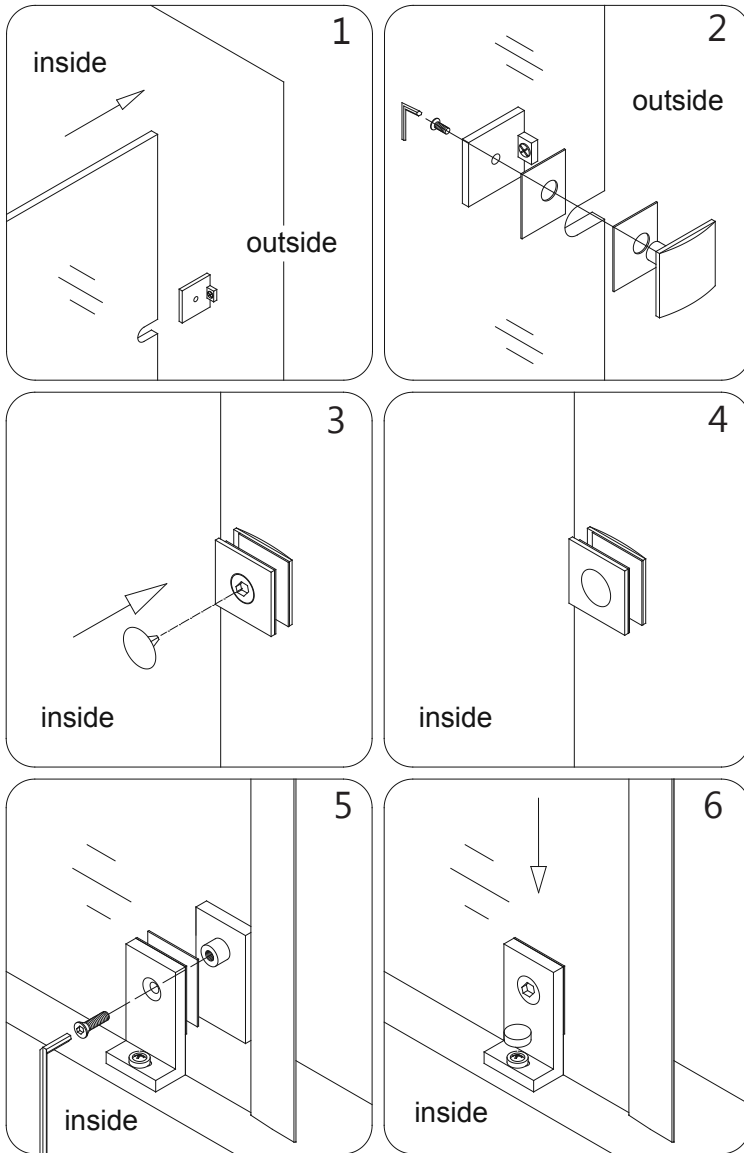

Fig 7
8. Move the **Stationary Glass (#11)** back into position, and assemble the **Wall Brackets (#24)**. Assemble the **Bottom Bracket (#18)** onto the **Stationary Glass (#11)**. Cover the **Bottom Bracket (#18)** screw head with **Decorative Screw Cover (#17)**. (Fig 7 & 8)